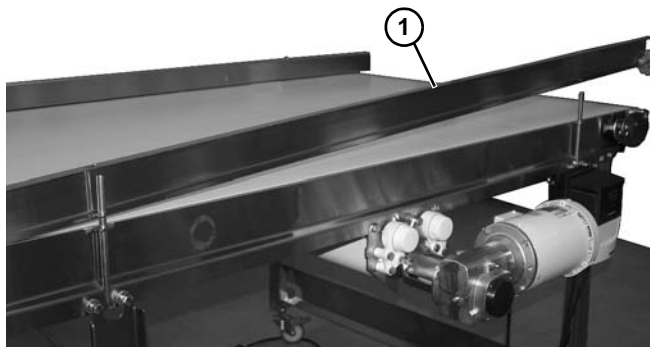

Figure 2
3. Remove all guiding (**Figure 2, item 1**), if equipped. Place components in COP tank.